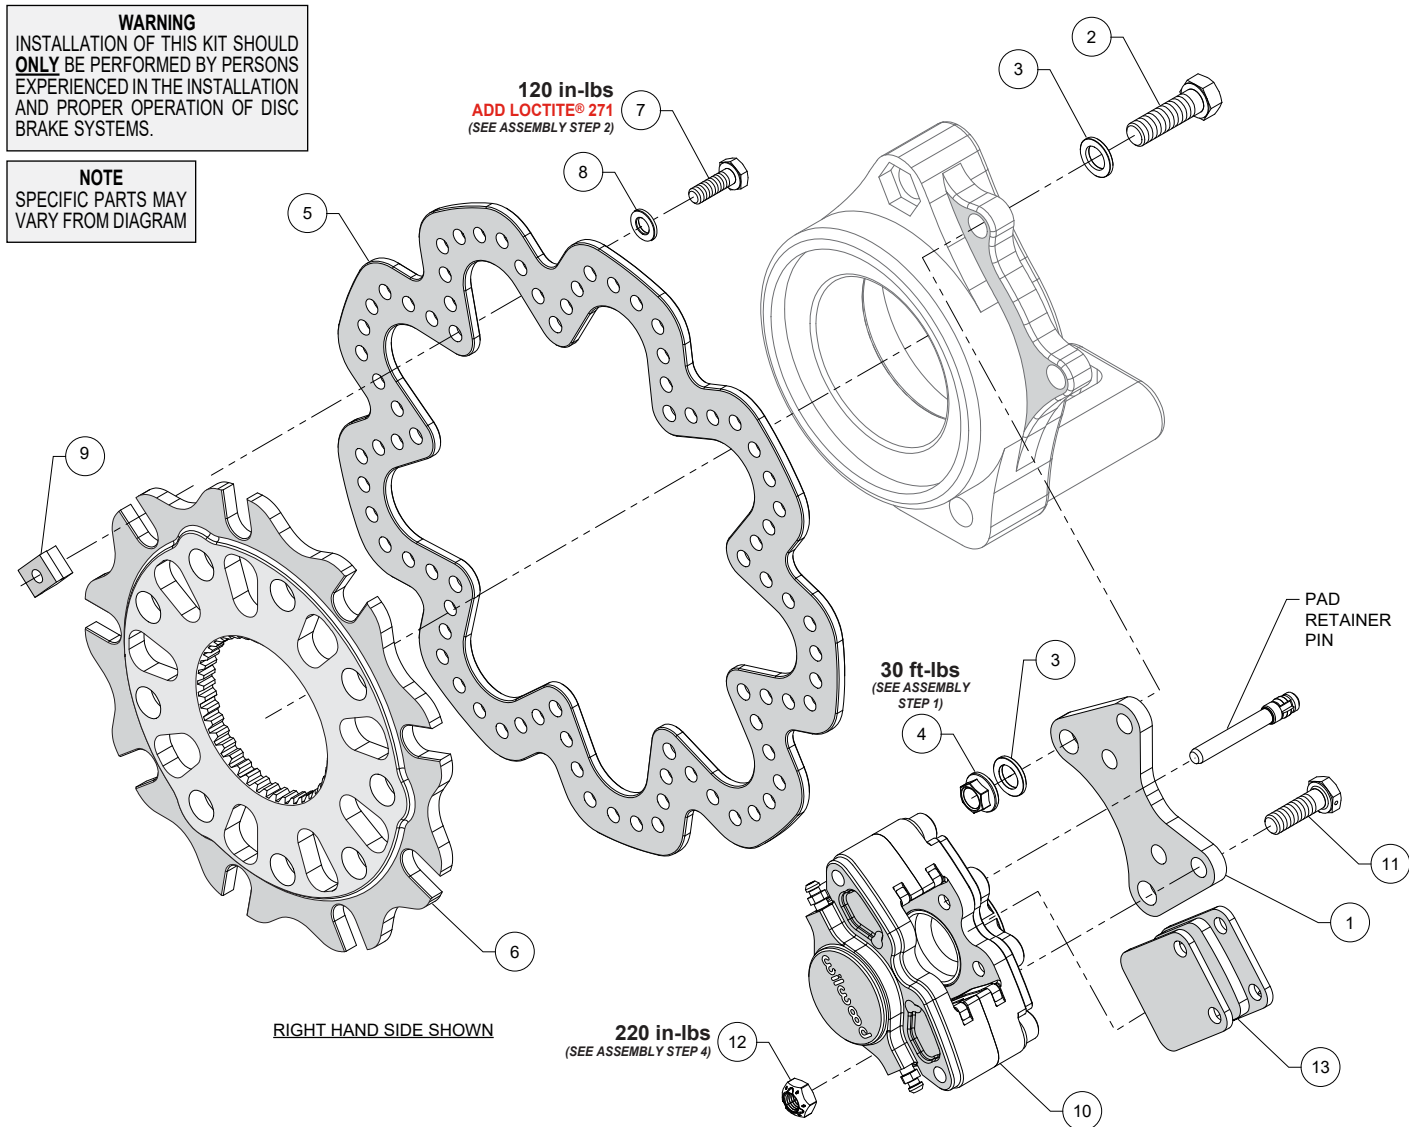

Figure 1. Typical Installation Configuration
NOTE: Numbers in parenthesis refer to the parts list and Figure 1 on the preceding page.
STEP 1 Orient the caliper mount bracket (1) as shown in Figure 1, and install using bolts (2), washers (3), and nuts (4). Temporarily tighten the mounting nuts and bolts. **NOTE:** The bracket must fit squarely against the mount bosses on the birdcage. Inspect for interference from machining ridges, burrs, etc. After the bracket alignment has been checked, torque nuts to value shown in Figure 1.
STEP 2 Orient the rotor adapter (6) and the rotor (5), as shown in Figure 1, and attach using bolts (7), washers (8), and t-nuts (9). Apply red *Loctite*® 271 to the bolt threads before installing. Finger tighten. After all t-nuts have been installed, torque bolts to value shown in Figure 1 using a criss-cross pattern. Please refer to Wilwood's data sheet DS-669 (available at www.wilwood.com/Pdf/DataSheets/ds669.pdf) for complete t-nut bolt kit installation instructions.
STEP 4 Mount the caliper (10) onto the bracket (1) using bolts (11) and nuts (12) as shown in Figure 1. Torque nuts to value shown in Figure 1.
STEP 5 Remove the pad pin retainers from the caliper, Figure 1. Slide the brake pads (13) into place. They should install easily without interference. Reinstall the pad pin retainers.